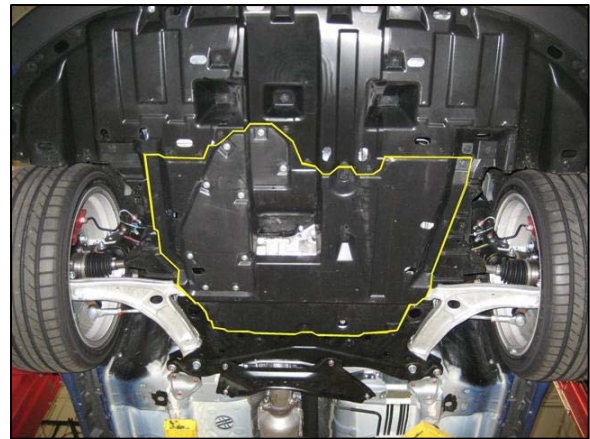

Fig. 2
2. Locate the plastic engine compartment covers under the vehicle. Remove the rear-most center cover, shown outlined in yellow in Fig. 2. The cover is secured by round plastic clips. Use a prying tool or a flat blade screwdriver to pop out the center section of the clip, and then pull the clip out by hand (clips, flat blade screwdriver).